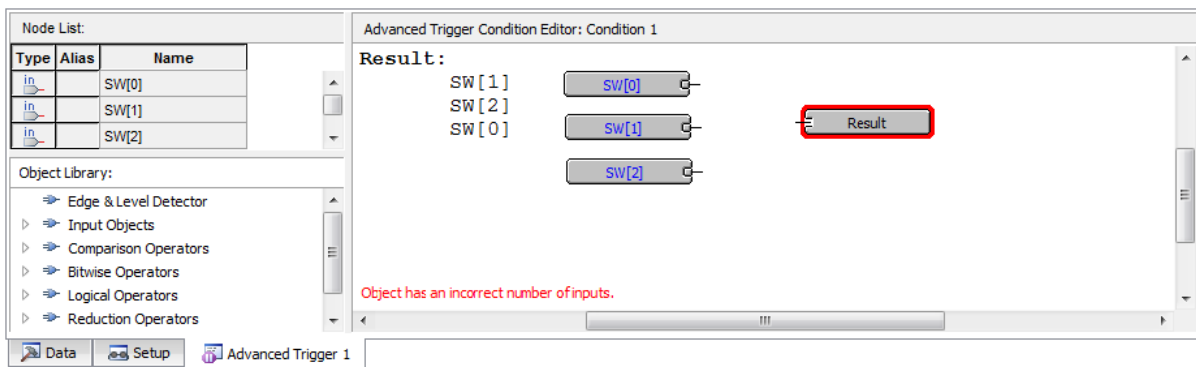

Figure 19. The three input nodes of interest dragged into the Advanced Trigger Editing Window.
- In the node list section of this window, highlight the 3 nodes SW[0] to SW[2], and click and drag them into the white space of the Advanced trigger window, resulting in Figure 19. Note that you can also drag and drop each node individually.